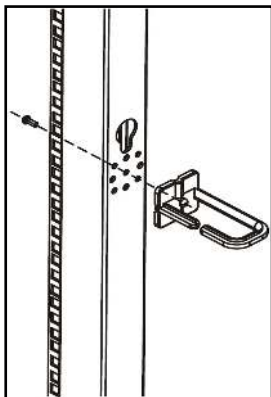

Figure 9
2. Insert a **Hook Mounting Screw** though the **Rack** and into the **Cable Management Hook**. (Figure 9)